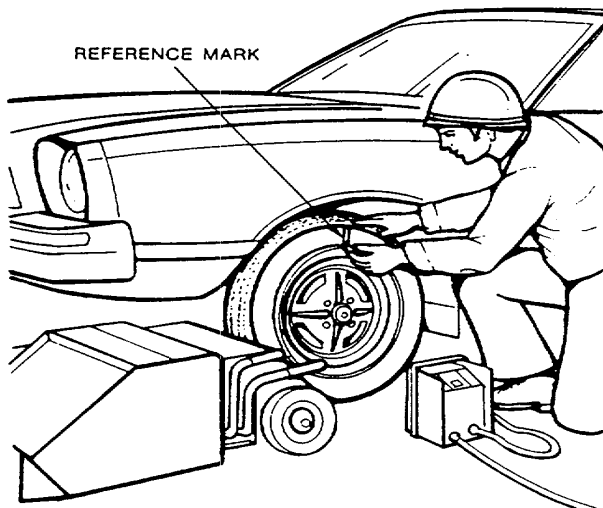

Figure 9. Reference Mark Tire
7. Place a chalk mark or a piece of tape on the tire at a random point, or establish some other convenient reference mark, such as the valve stem. See figure 9.